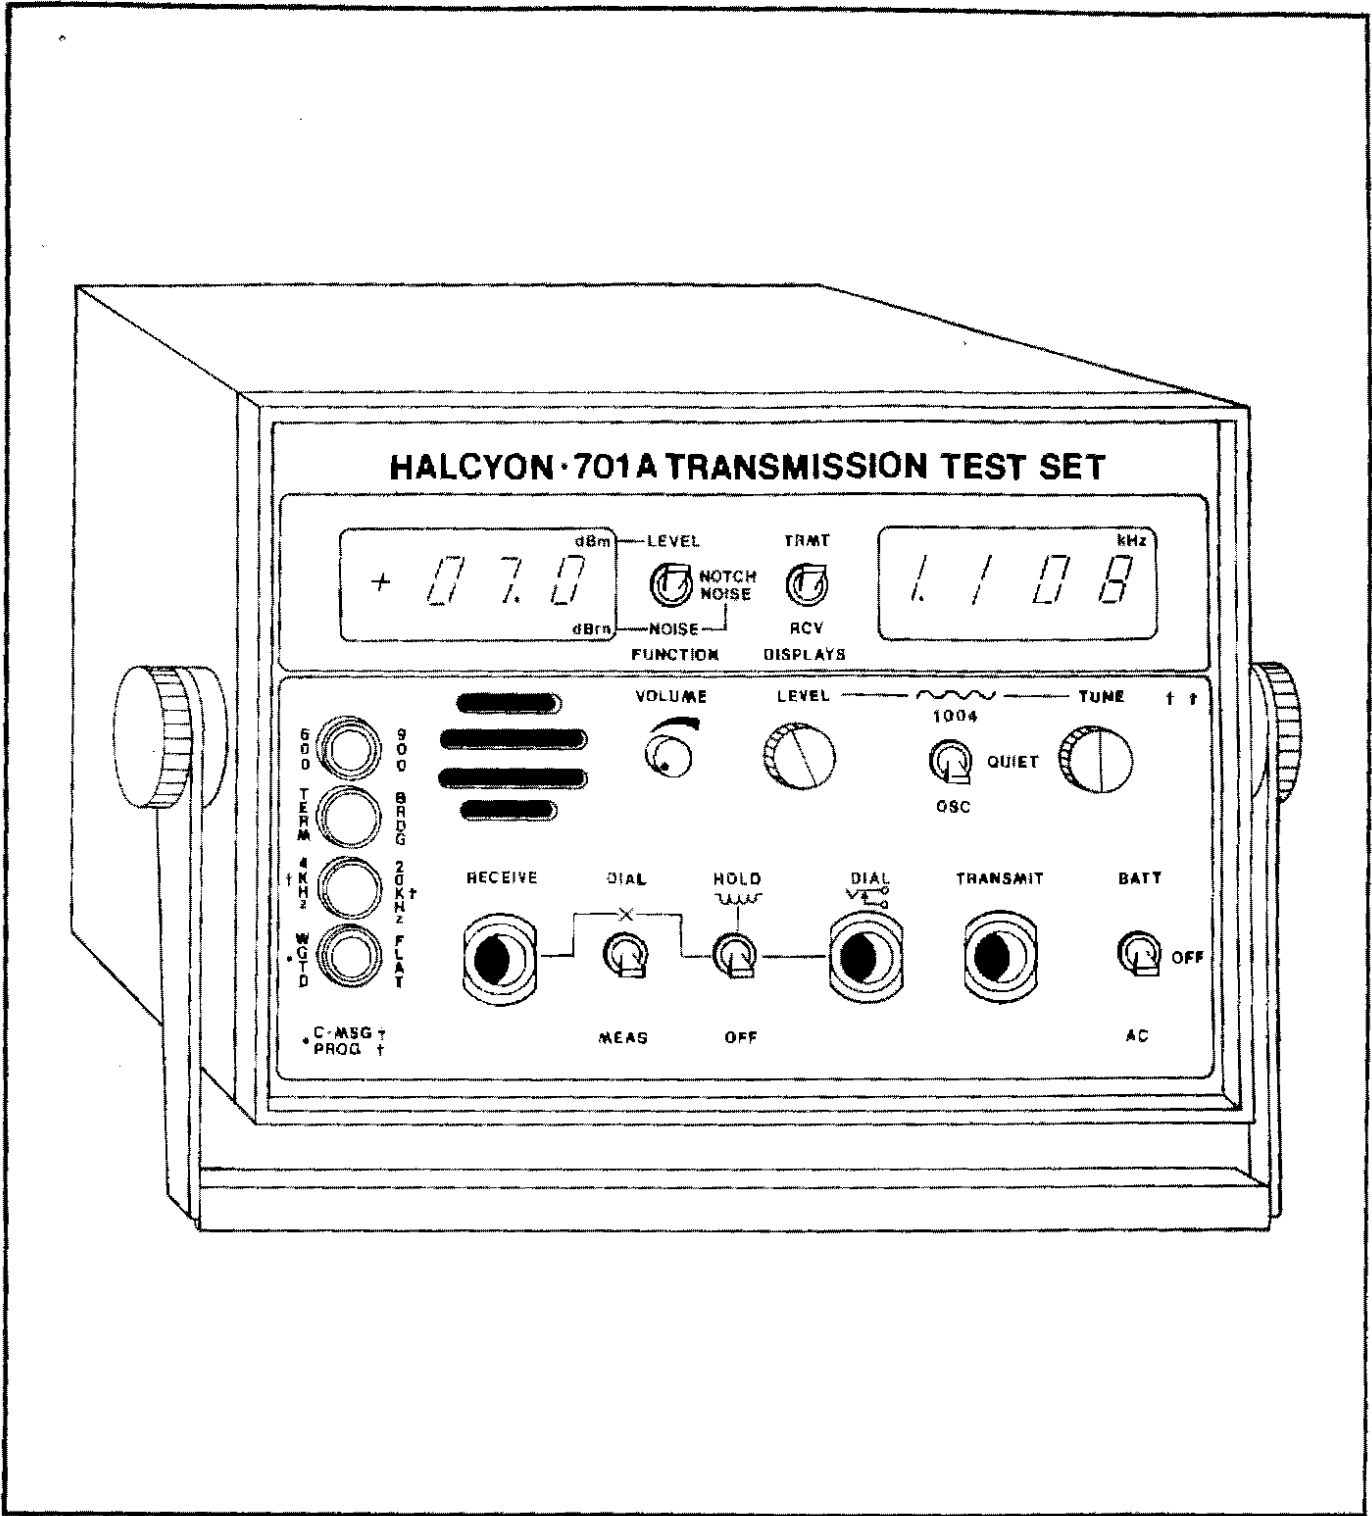
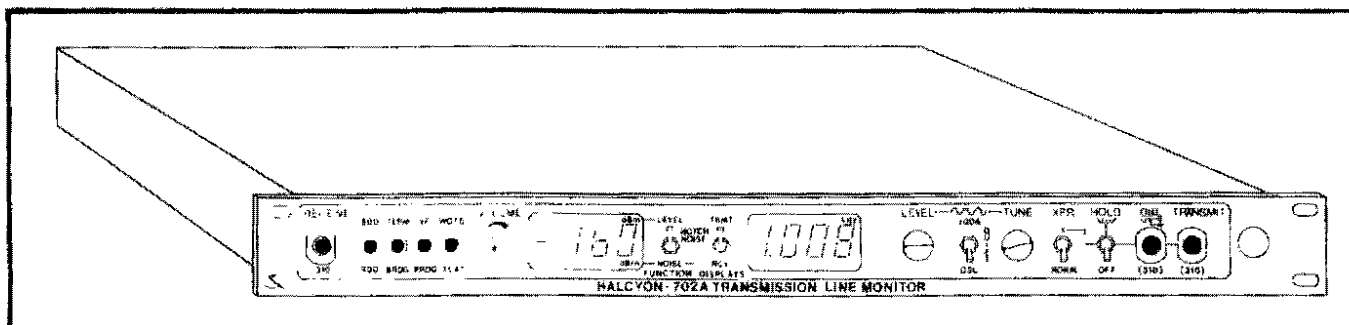

Fig. 1
Fig. 2
1.01 The Halcyon 701A and 702A are voice-band transmission test sets with level, noise, and frequency measurement capabilities in conformance with Bell Technical Reference PUB 41009. The 701A is compact, lightweight, and comes equipped with batteries (optional) to make the unit a completely portable test instrument. (See Figure 1.) The 702A is the rack-mount version of the 701A, requiring only 1-3/4 inches of mounting space. (See Figure 2.) The 702A normally operates from ac power, but may be equipped for operation from -48 Vdc office battery supplies. Special features include the following: